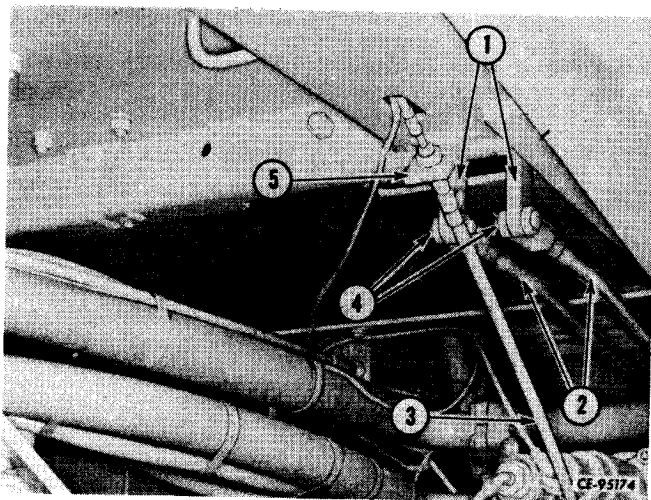

Figure 4-87
Connect control rods (2, Fig. 4-87) to hydraulic control valve levers (1) with pins and cotter pins (4). Connect parking brake cable (3) to bracket (5).